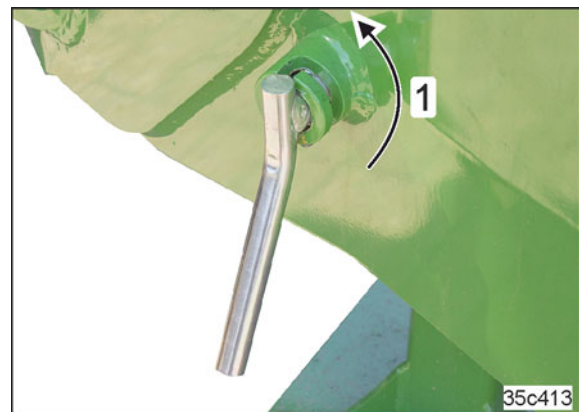

Fig. 140
- 5.1 Turn the locked pin (Fig. 140/1) by 180° until the clamping sleeve (see Fig. 142/1) is released.
8. Lock the pin by turning (see Fig. 140)